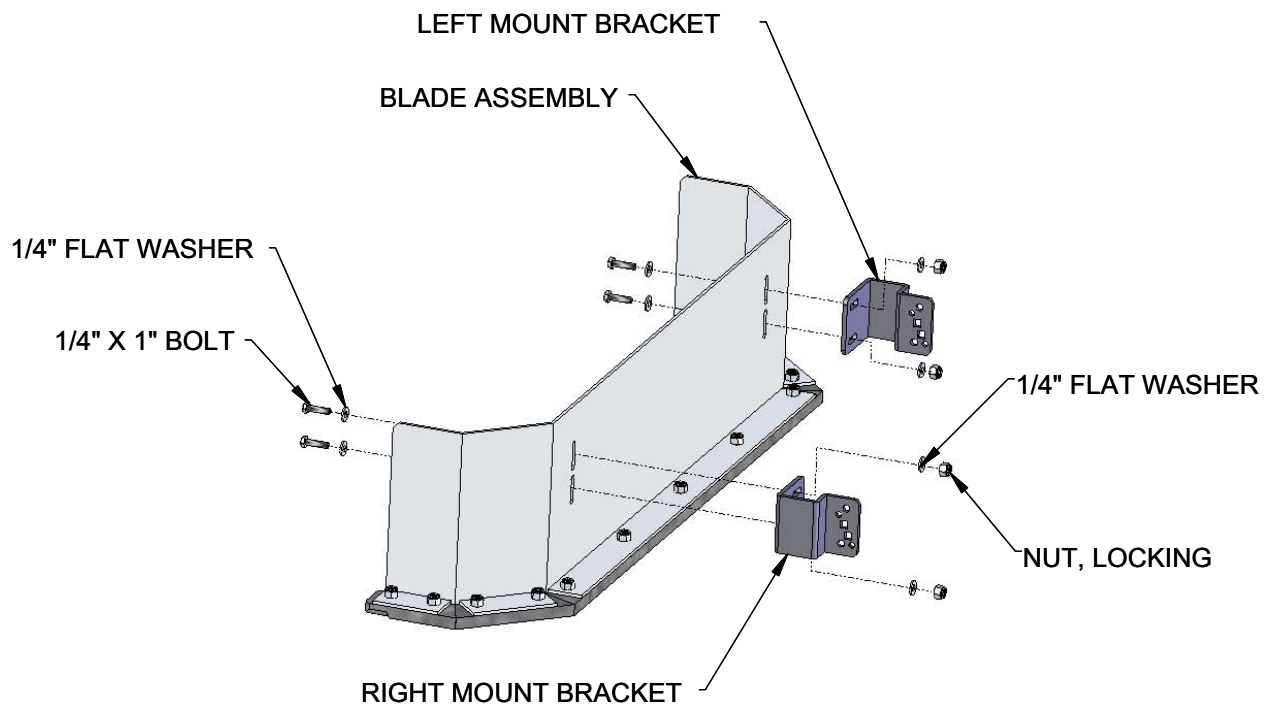

FIGURE 2
5. Attach the Blade Assembly to the Left and Right Mounting Brackets using the included hardware per Figure 2.